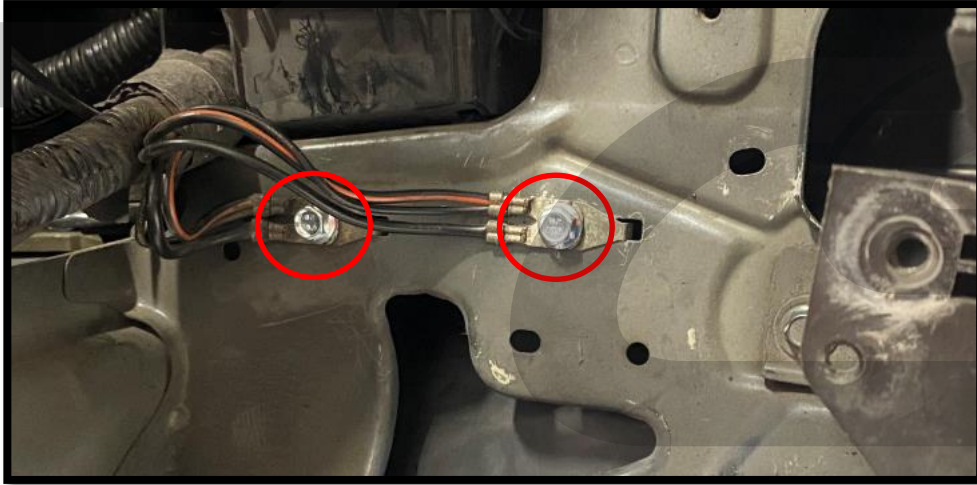

Figure 3d
- g) Locate the two ground wires attached to the fender support arm. Remove the 10mm bolt from each ground wire. Bolts **circled in red** in **Figure 3d**.